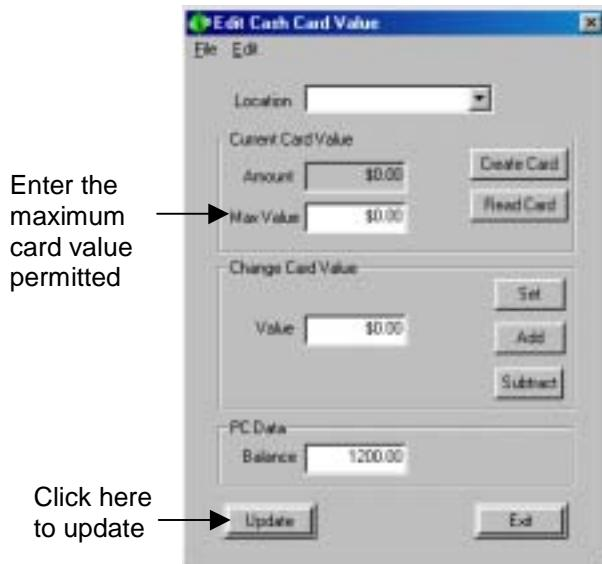

Figure 12.3 Changing the PC Balance
2. Enter a value in the Max Value field (Figure 12.3).
3. Click the update button to save value (Figure 12.3).